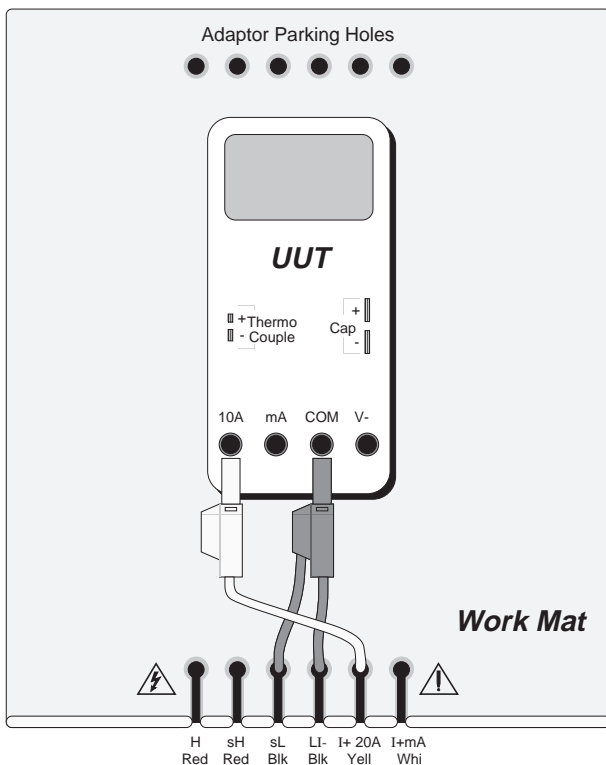
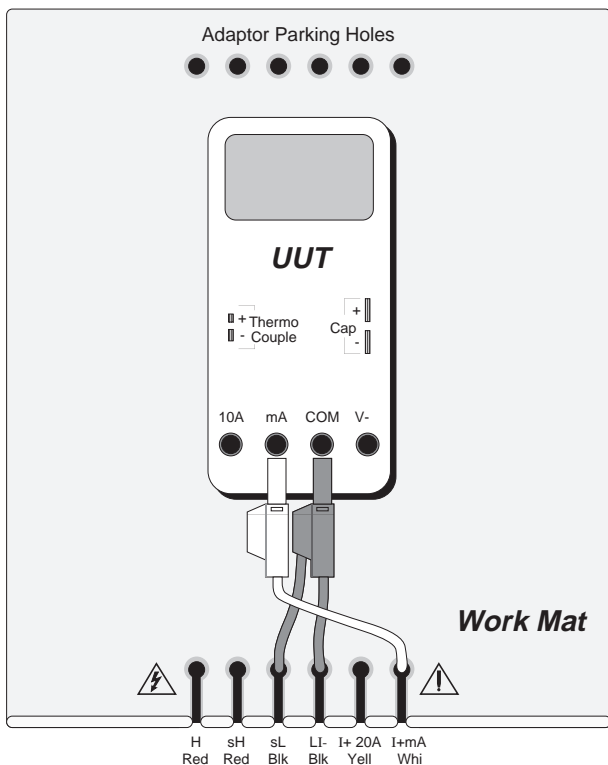
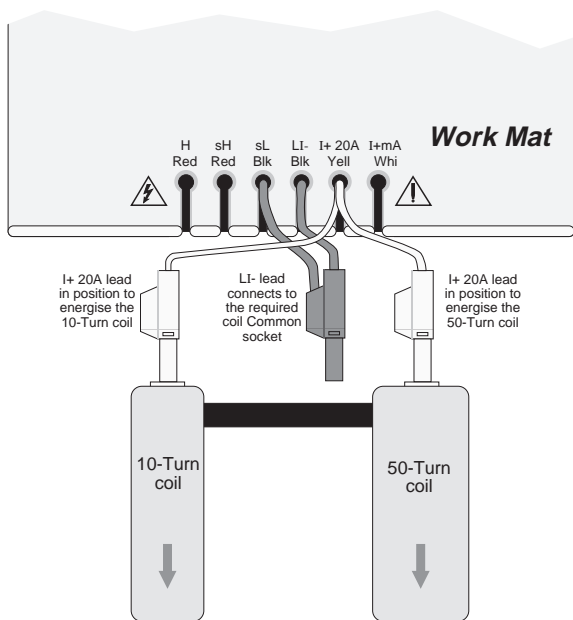

Fig. 6.1
Fig. 6.2
Fig. 6.3
The general connection schemes for UUT calibration of AC Current Function are illustrated in *Figs. 6.1, 6.2 and 6.3.*
Connect the 9100 to the UUT as shown in *Fig. 6.1, 6.2 or 6.3/4/5*, and ensure that both instruments are powered ON and warmed up.
a. Use the front panel controls to set the 9100 Output to the UUT cal point frequency, current and output form (SELECT OUTPUT key). Reconnect (*Fig 6.1, Fig 6.2, or Fig 6.3/4/5*) as required.
Connect the 9100 to the UUT as shown in Fig. 6.1, 6.2 or 6.3/4/5, and ensure that both instruments are powered ON and warmed up.
a. Use the front panel controls to set the 9100 Output to the UUT cal point frequency, current and output form (SELECT OUTPUT key). Reconnect (Fig 6.1, Fig 6.2, or Fig 6.3/4/5) as required.